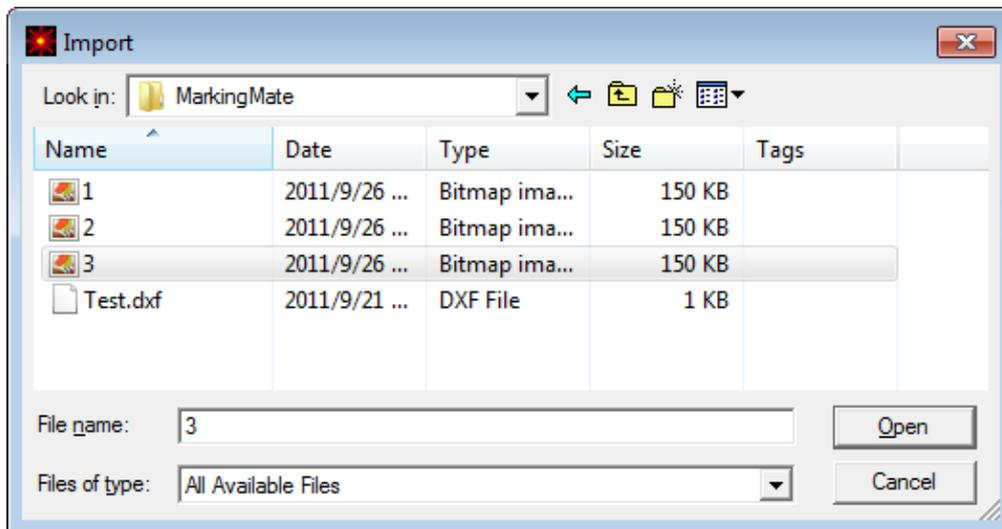
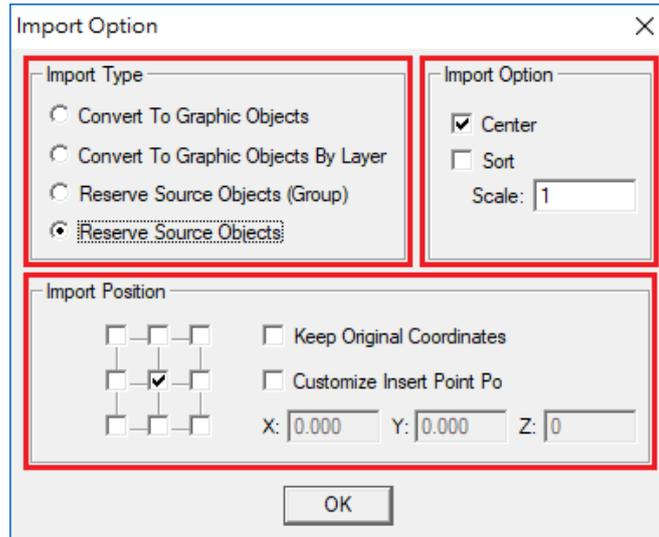

Fig. 1.1.70
Fig. 1.1.71
This function allows user to import an image file that was not originally created by MM3D, such as *.bmp or *.dxf. The system will automatically convert that file into a format supported by MM3D after using import function, see Fig.1.1.70. If the import object is a group or combine object, users can use “Ungroup” or “Break” function to break that object into several individual objects, see Fig.1.1.71.
3. If file is already existed, will pop-up a dialog to confirm to replace, skip, or rename the file. See fig. 1.1.70.